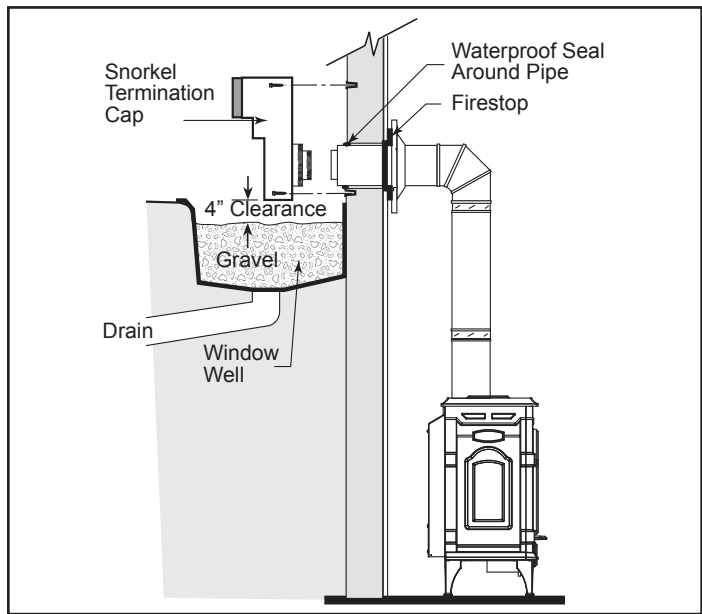

Figure 28 - Snorkel kit installation.
Install Snorkel Kit when it is not possible to meet the required vent termination clearances of 12" (305 mm) above grade level. The snorkel kit will allow installation depth of down to 7" (178 mm) below grade level. The seven inches is measured from the center of the horizontal vent pipe as it penetrates the wall. **If the venting system is installed below grade, a window well must be installed with adequate and proper drainage. (Figure 28)**
2. Remove soil to a depth of approximately 16" (406 mm) below the base of the snorkel. Install a window well (not supplied). Refill the hole with 12" (305 mm) of coarse gravel and maintain a clearance of at least 4" (102 mm) below the snorkel. (Figure 28)